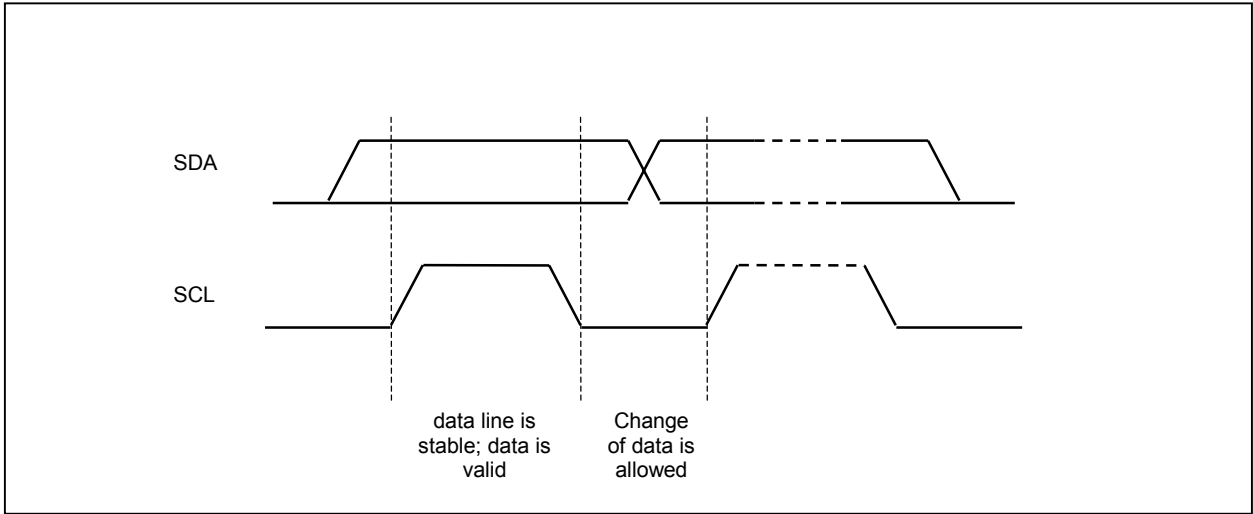

Figure 11 - Definition of the data transfer condition
1. The data bit, which is transmitted during each SCL pulse, must be kept at a stable state within the “high” period of the clock pulse. Please refer to the Figure 11 for graphical representations. Except in start or stop conditions, the data line can be switched only when the SCL is low.